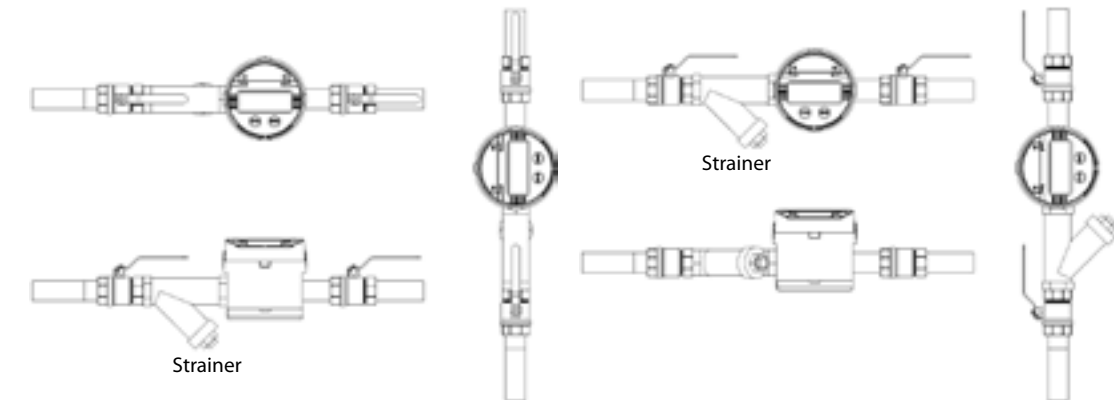

Figure 1: Meter Installation
- Install the meter along the meter shafts in a horizontal plane (see Figure 1).